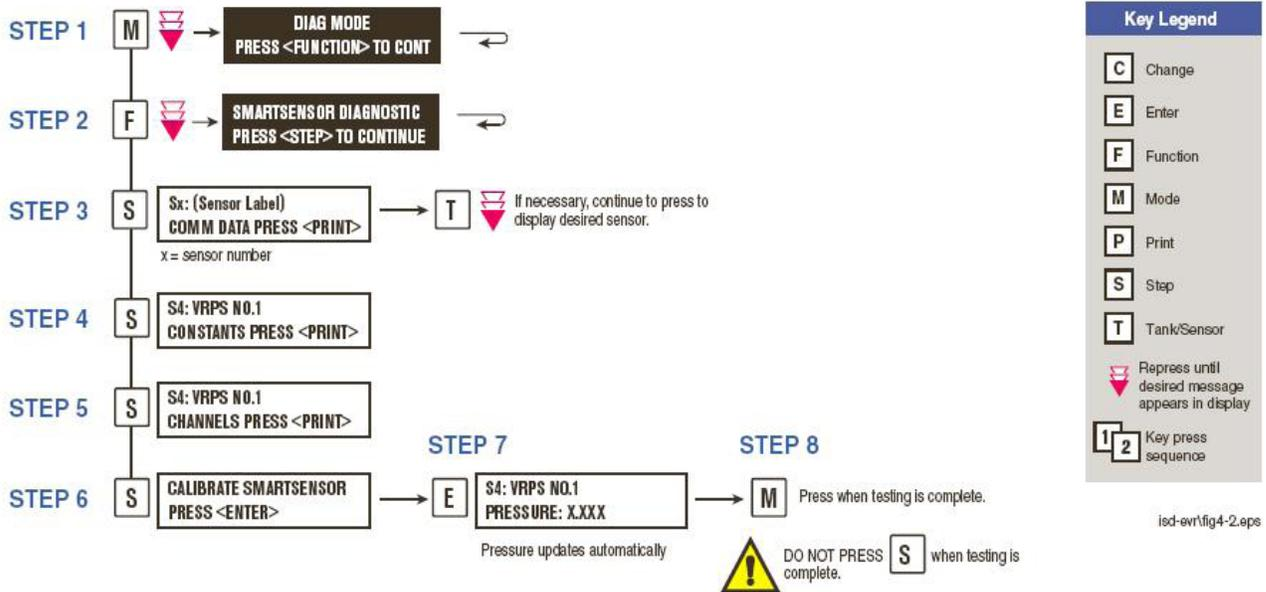

Figure 10-6
If the Vapor Pressure Sensor is installed on the vent stack, the pressure of the USTs is determined at the vent stack test port as shown in Figure 10-6. The vent stack test port is equipped with a quick connect fitting that is connected to an electronic pressure
- 3.5 If the Vapor Pressure Sensor is located at the vent stack, the UST pressure must be determined at the vent stack test port as shown in Figure 10-6.
- 5.3.1. A test port and female quick connect fitting shall be installed on the plumbing fixture below the Vapor Pressure Sensor enclosure as shown in Figure 10-6. A Swagelok, part number SS-QC4-PM, quick connect fitting or equivalent can be used.
- 5.3.3. Use various pipe fittings to accommodate the ¼ inch test port, including half inch NPT female tee fitting and half inch to quarter inch reducer, as shown in Figure 10-6.